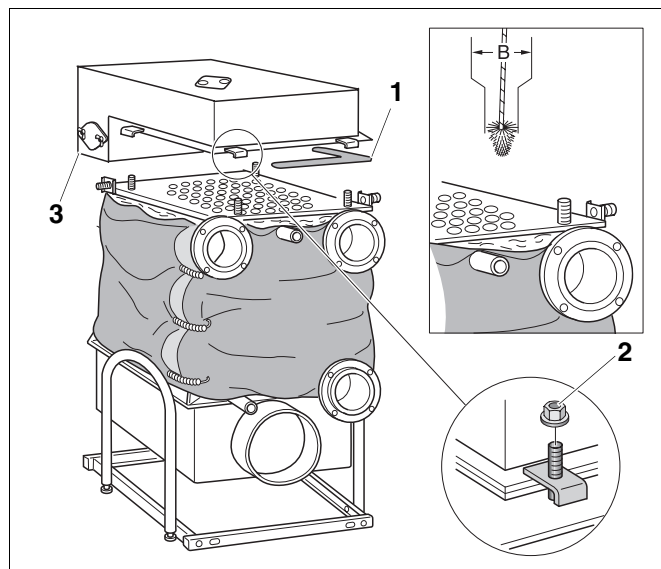

Fig. 21 Removing flue gas distributor
- To do this, the flue gas distributor must be removed (Fig. 21, **Item 3**).
- When cleaning, you must use the plastic brush shown in Fig. 21 in such a way that it comes out of the end of the pipes.
- You must check the silicon gasket (Fig. 21, **Item 1**) on the flue gas distributor and the flue pipe sealing collar. Replace them if they are damaged.